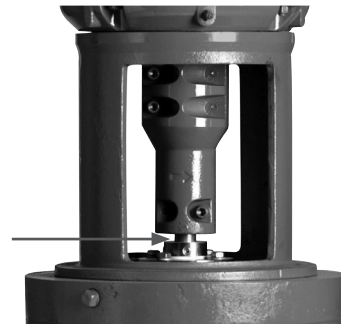

Figure 23a: Run Out Measurement Location
16. Inspect run out of the shaft between the bottom of the coupling and the mechanical seal as shown in Figure 23a. If the run out exceeded 0.005”, the coupling must be adjusted. It is usually most effective to adjust the four bolt section of the coupling.
18. Install the (2) coupling guards.